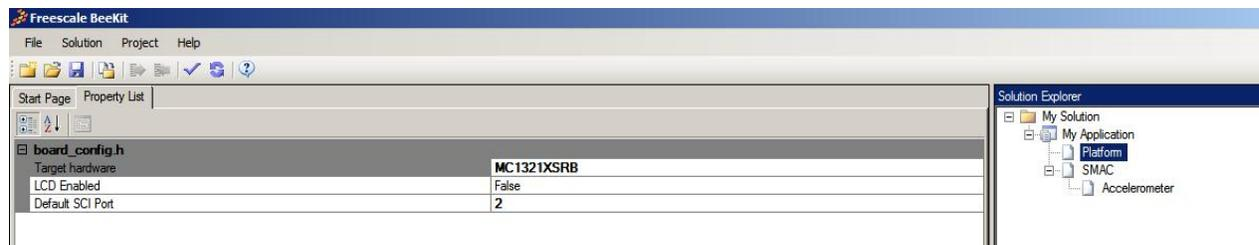

Figure 6. Platform Software Component Configuration
- Use number two as a default SCI port (Figure 6).